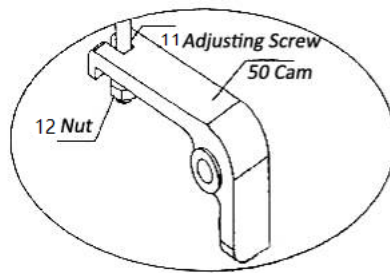

Fig. 4
**NOTE:** These three positions have been set at the factory to work appropriately as soon as the handle tube is attached. Check to see if the truck works well in the 3 control positions. If the forks do not raise or lower as expected, proceed to the following steps (see Fig. 4):
1. Pull the Control Lever (7) upward to the "LOWER" position. If the fork frame does not lower, turn the Nut (12) CLOCKWISE until the fork frame lowers.
2. Push the Control Lever (7) down to the "LIFT" position. If the fork frame does not elevate, turn the Nut (12) COUNTERCLOCKWISE until the fork frame elevates.
3. Keep the control handle in "NEUTRAL" position. If the fork frame lowers, turn the Nut (12) COUNTERCLOCKWISE until the fork frame does not lower.